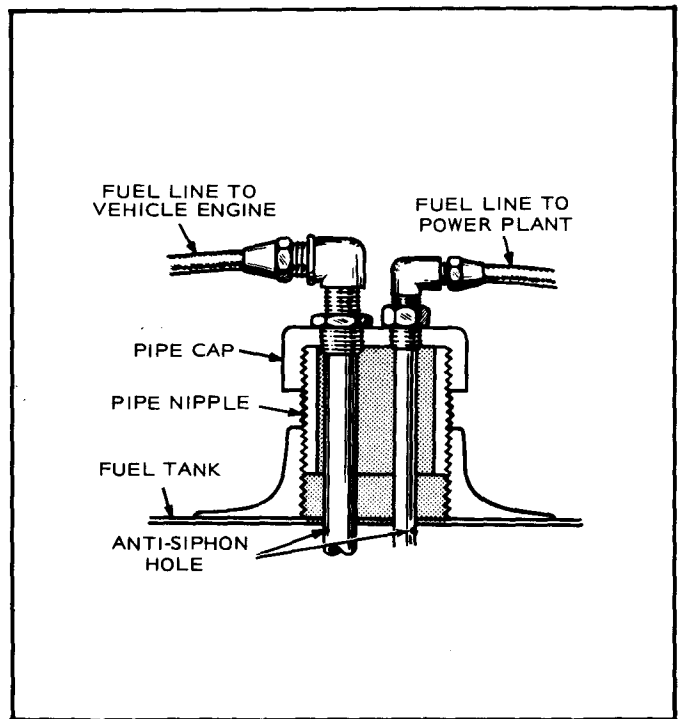

FIGURE 4. INSTALLATION OF SECOND DIP TUBE IN TANK OUTLET
2. Installing a special fitting at the tank outlet so two dip tubes can be fitted in the tank (Figure 4).